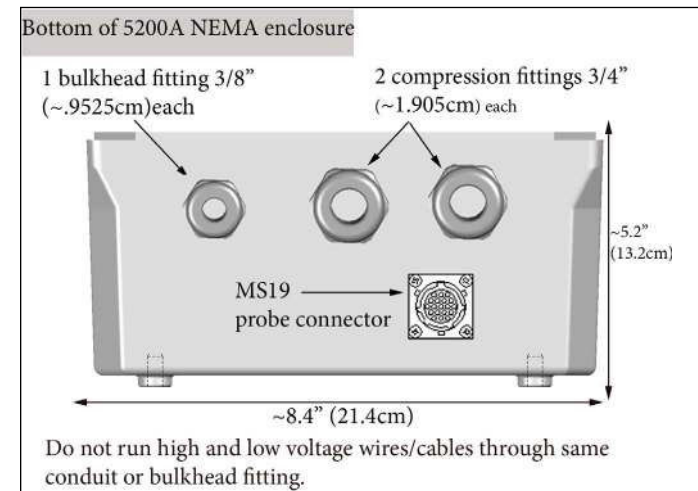

Figure 3.30
2. Line up pins and guides with the holes and indentations on the cable connector at the bottom of the YSI 5200A - figure 3.30.